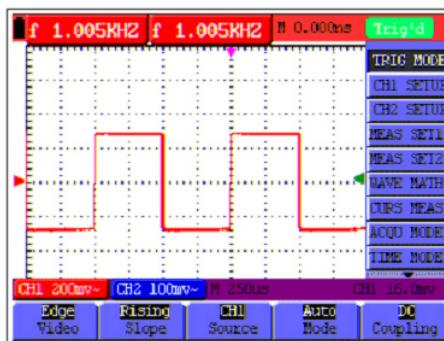

Figure 16.- Edge triggering.
5. Press the “OSC ▲” or “OSC ▼” key to adjust the trigger level position. Now, look at the display: you can see a screen in the following figure 16.